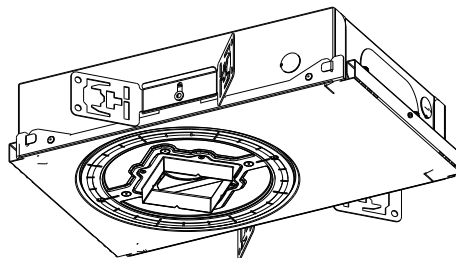

fig. 7
- c. Bend both sides out to the required distance for your method of mounting (see fig. 7).